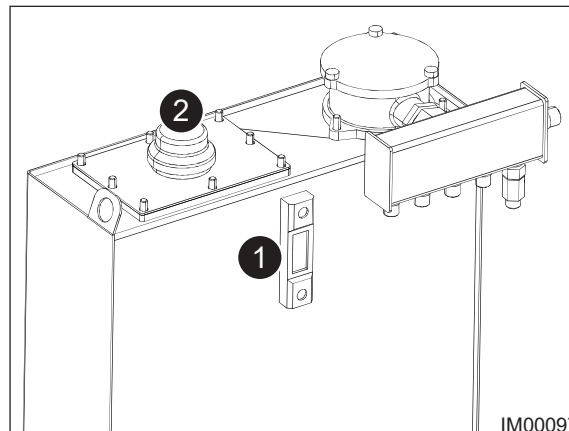

Fig: 11.36 - Hydraulic Oil Tank
4. View the oil level gauge (Item 1, Fig: 11.36). The oil level shall be between the red and black markers on the sight glass.